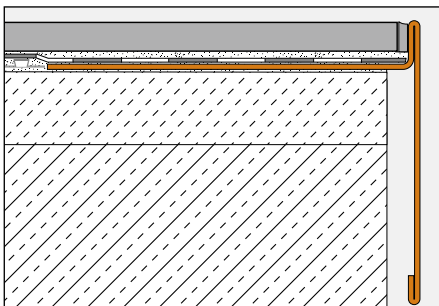
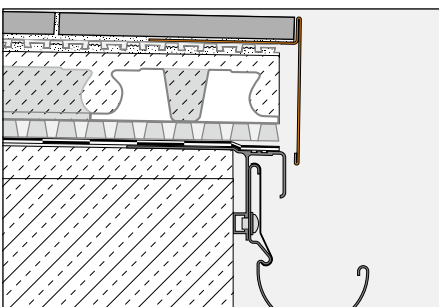

Fig. 4
Fig. 5
**Installation in conjunction with tile coverings (Fig. 4 and 5)**
2. Embed the trapezoid perforated anchoring leg of the edging profile Schlüter®-BARA-RT on the edge of the screed (Fig. 4) or on the previously installed drainage mat Schlüter®-DITRA-DRAIN (Fig. 5) by placing it into the contact layer of thin set adhesive and trowel additional adhesive over the leg so that it is completely covered.